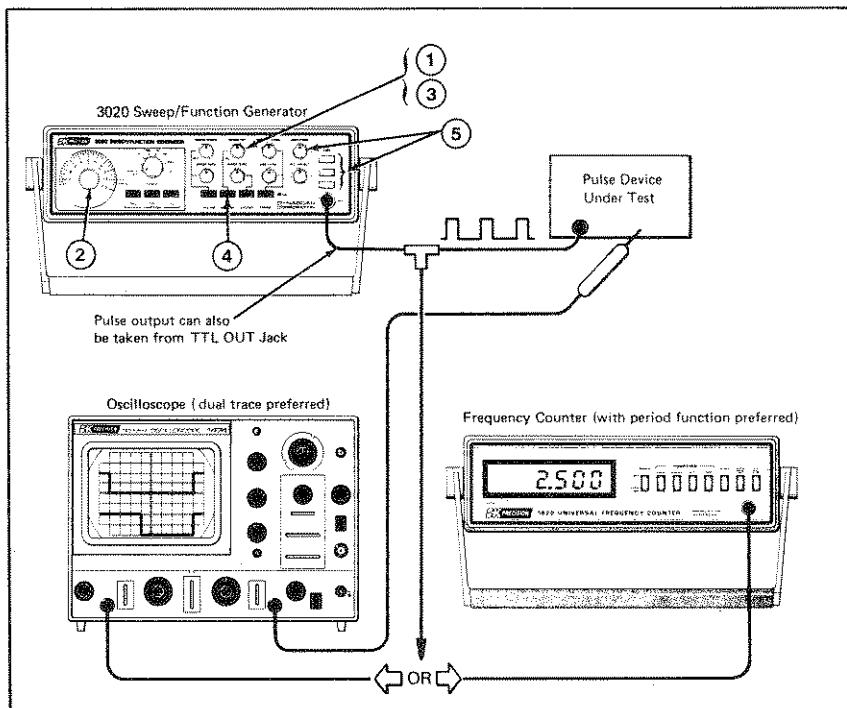

Fig. 6. Typical set-up for pulse generation.
3. Fig. 6 and 7 give a typical example for obtaining a specific pulse waveform.
Assume that it is desired to generate a pulse waveform with a 40-microsecond pulse width and repetition rate of 2.5 kHz. The following procedure, along with Figs. 6 and 7, describe how to connect equipment, set controls, and interpret measurements to obtain this pulse waveform. Pulse waveforms of other pulse widths and repetition rates may be obtained similarly. Steps of the procedure must be performed in the sequence specified.
1. Connect equipment as shown in Fig. 6 Set the SYMMETRY control to CAL.